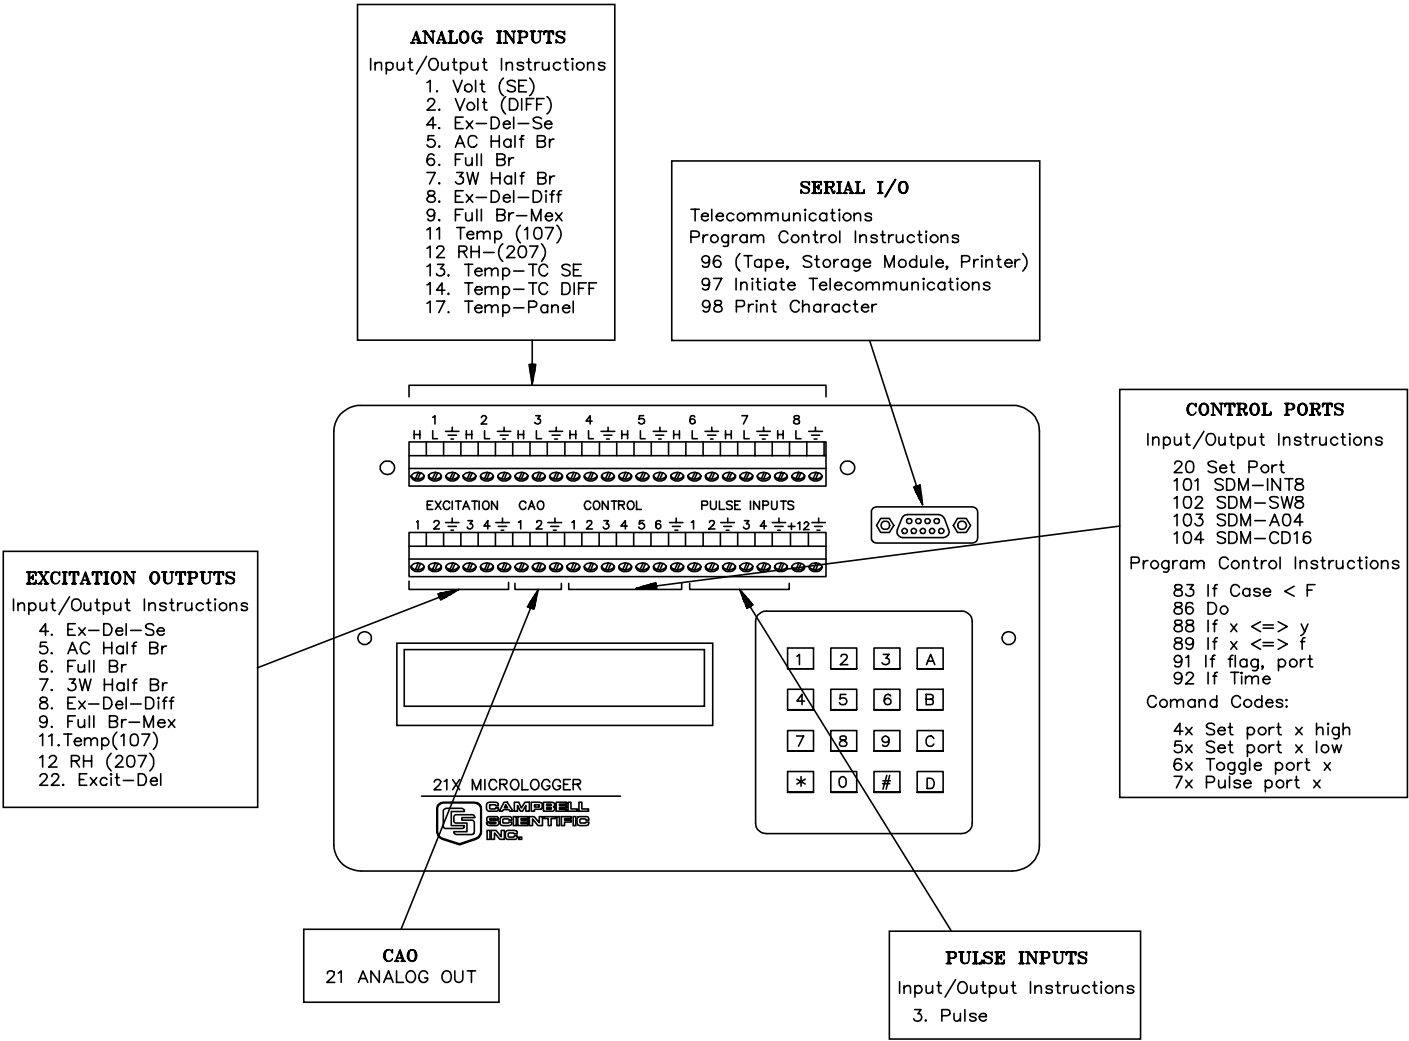

FIGURE OV1-2. 21X Wiring Panel and Associated Programming Instructions
The panel also contains two terminal strips which are used for sensor inputs, excitation, control outputs, etc. Figure OV1-2 shows the 21X panel and the associated programming instructions.
1. **INPUT/OUTPUT INSTRUCTIONS** (1-26, 101-104, Section 9) control the terminal strip inputs and outputs (the sensor is the source, Figure OV1-2), storing the results in Input Storage (destination). Multiplier and offset parameters allow conversion of linear signals into engineering units. The Control Ports and Continuous Analog Outputs are also addressed with I/O Instructions.